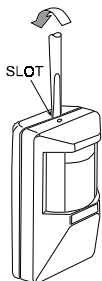

Figure 3. Removing the Cover
- A. Insert a small screwdriver into the slot on top of the unit (Figure 3). Press the blade in between the cover and the base and lever backwards. The top part of the cover (equipped with the lens) will snap free. You may now hinge the top of the cover outward, separate the bottom legs of the base from the slots in the cover and remove the cover.